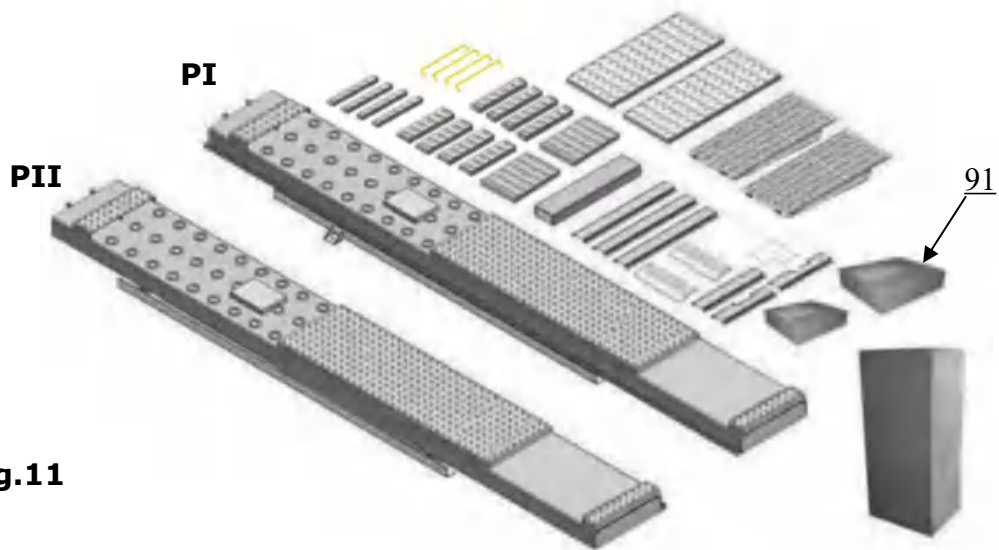
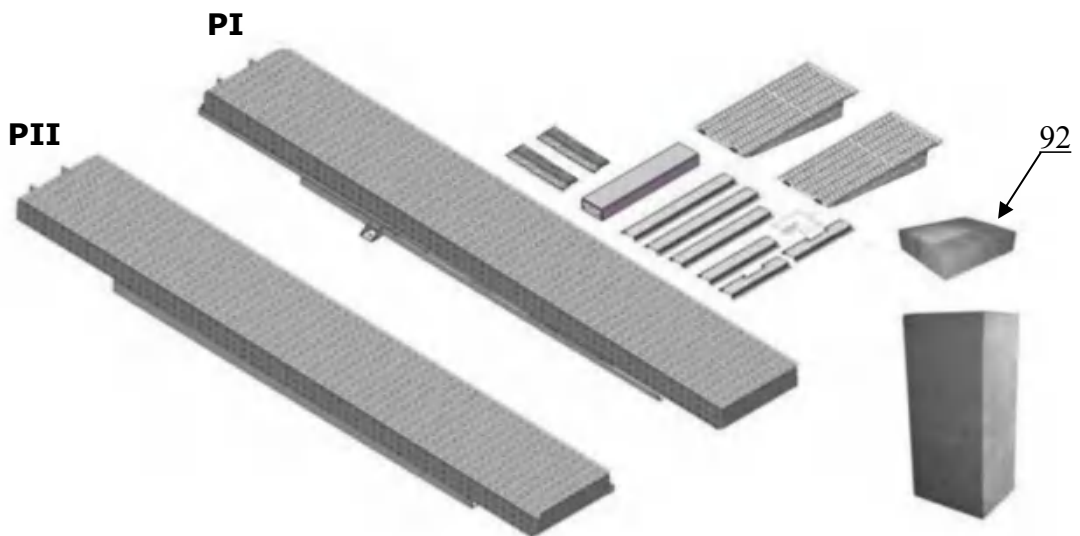

Fig.11
Fig.12
2.1 Parts for on surface installation (See Fig.11, Fig.12)